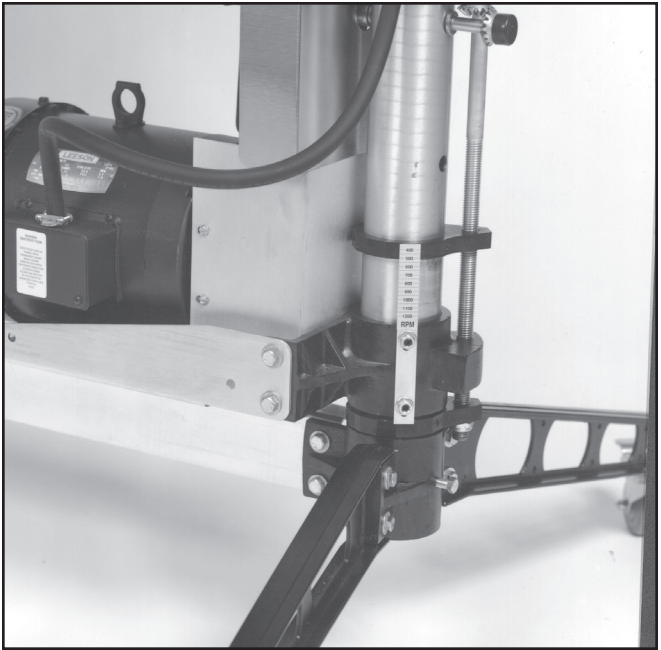

Fig. 8 Brush RPM gauge.
The RPM gauge (Fig. 8) displays the brush speed and is read where the scale intersects the top of the screw support casting. To calibrate the gauge, lower the motor to the lowest position. Loosen both hex nuts while holding set screws. Position the RPM scale so that “400” RPM intersects the top of the screw support casting (Fig. 8). Tighten hex nuts to hold gauge in this position.
7. Gradually increase brush speed until the desired finish is achieved (Fig. 8).